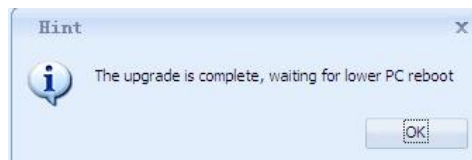

Figure 3-4
Step3. Dialog box appears when upgrade completed, (Figure 3-4), click " OK" and restart PCR, then upgrade completed.